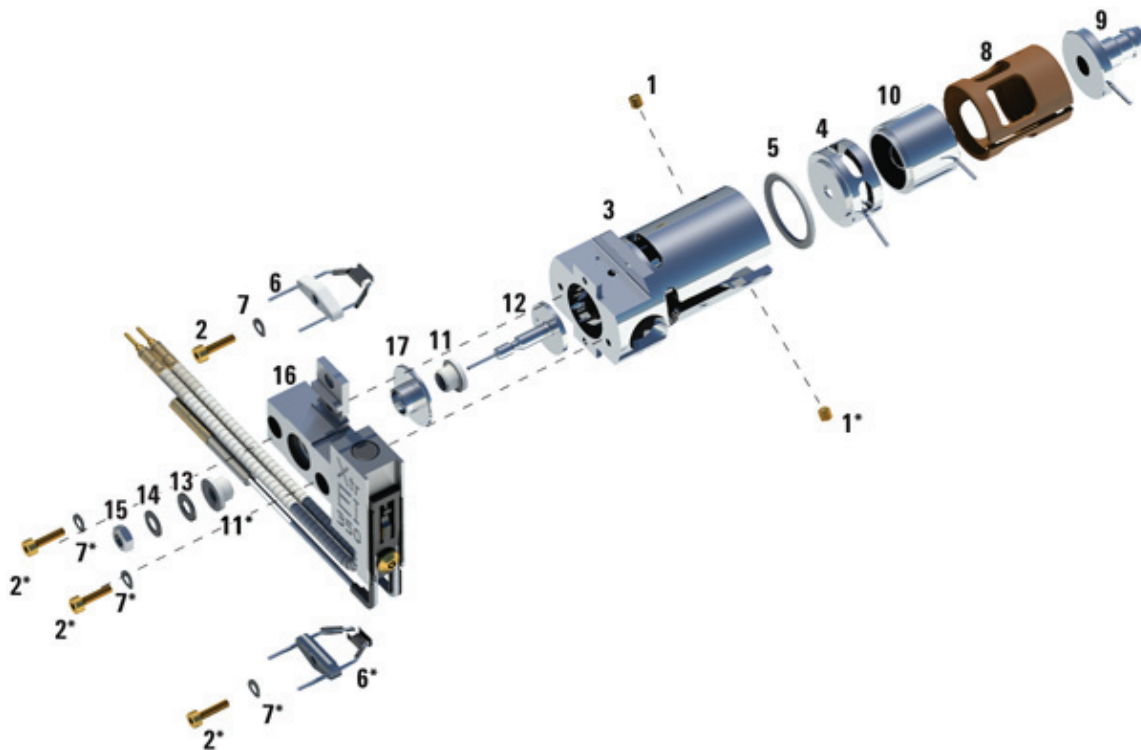

Figure 53. Disassembling the EI HydroInert source
Refer to the exploded parts view and the HydroInert parts list while using this procedure. (See Figure 53 and Table 17 on page 174.)
- 3 Separate the source heater assembly from the source body by removing the two screws. The source heater assembly includes the source heater, repeller, and related parts. (See Figure 53 and Table 17 on page 174.)
- 4 Disassemble the repeller assembly by removing the repeller nut, washers, ceramic insulators and repeller. (See Figure 53 on page 174.)
- 6 Pull the lenses out of the source body and separate the lens insulator, ion focus lens, extractor lens, extractor lens insulator, and extended entrance lens. (See Figure 53 on page 174.)
Table 17 Parts list for EI HydroInert source (Figure 53)
Table 17 Parts list for EI HydroInert source (Figure 53) (continued)